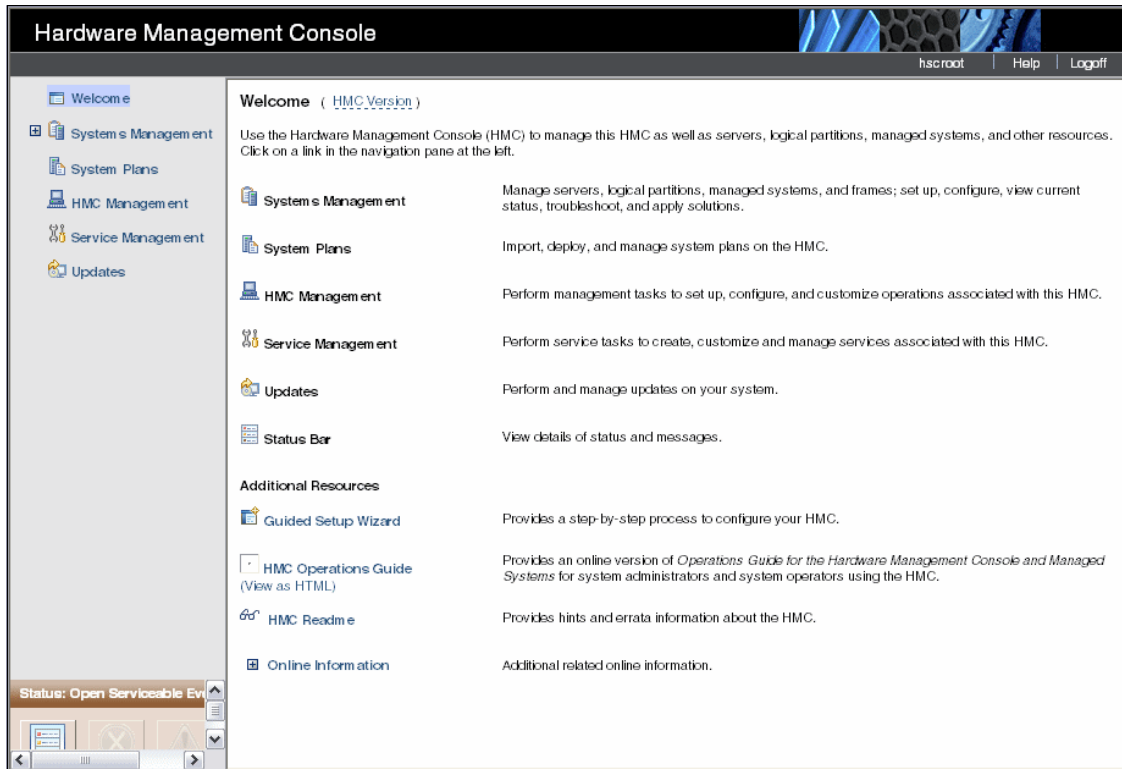

Figure 3-9 HMC Welcome screen
2. In the Work Pane, click **Guided Setup Wizard** (Figure 3-9).